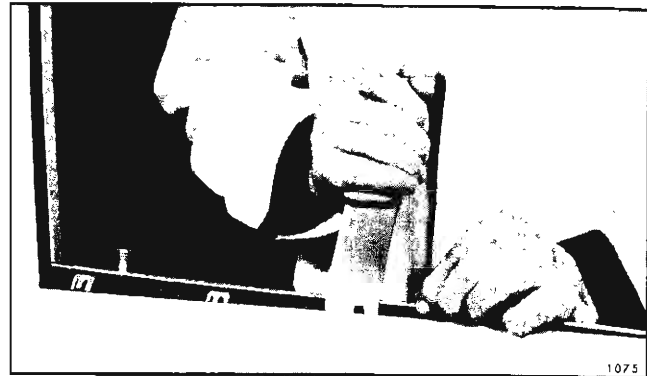

Fig. 2D14—Inner or Outer Strip Assembly Removal
6. Insert a flat-bladed tool, that is slotted to fit over tang of clip, between door panel return flange and strip assembly at clip locations (Fig. 2D14). Carefully pry clips from slots in panel and remove strip assembly.